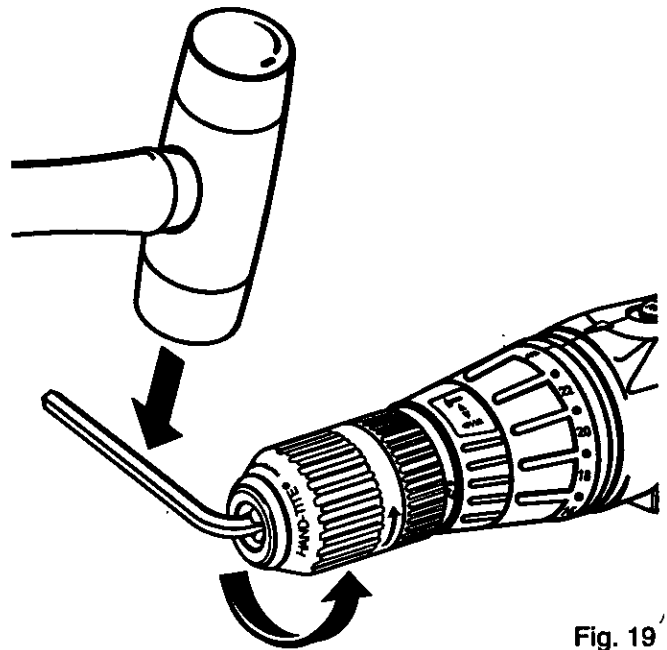

Fig. 19
- Insert allen wrench in chuck and tighten chuck jaws securely. Tap sharply with a mallet in a counterclockwise direction. This will loosen chuck on the spindle. It can now be unscrewed by hand. See Figure 19.